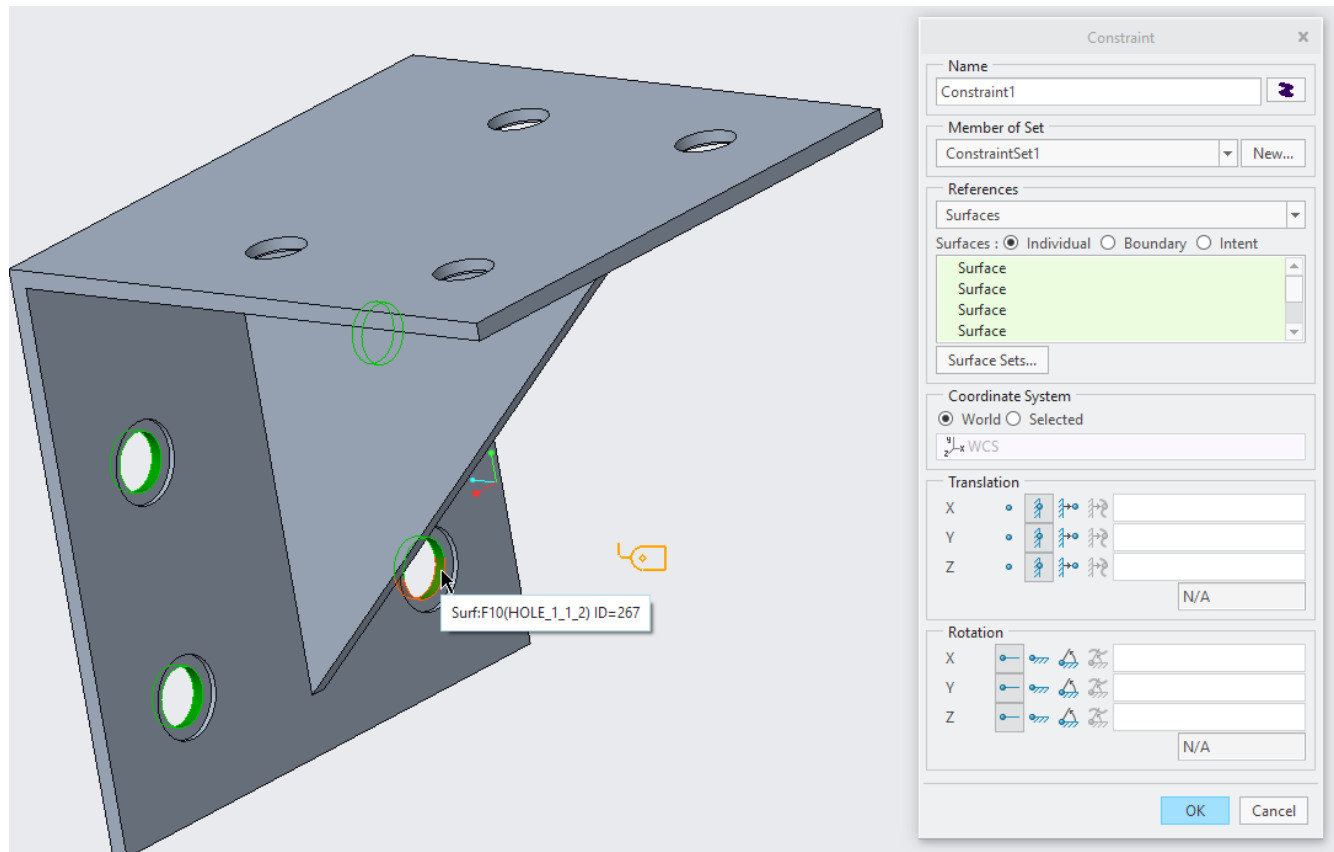

Figure 4: Four surfaces (highlighted in green) selected as references.
Next task is to constraint our part. If there are now constraints, the part hovers freely in the space and the information value of the simulations are minimal. Select **Displacement** (📐) from the *Constraints* group. Select the inner surfaces of the four holes as seen in Figure 4 as references (remember CTRL!). There are two of them, select the deeper one (smaller diameter). The default constraint options are fine (translations fixed); accept the *Constraint* (OK). Notice that Loads/Constraints feature has appeared to the model tree.